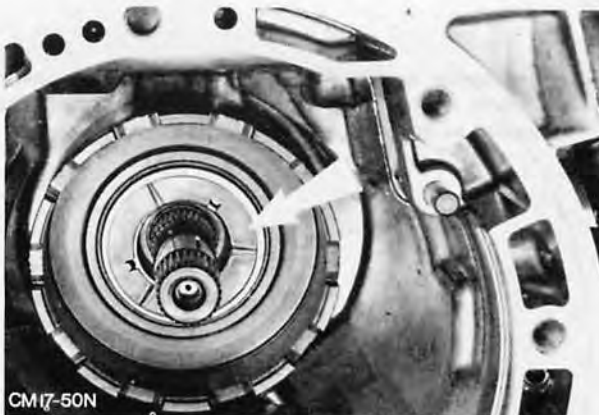

Fig. 112. Thrust washer No. 7 in transmission housing
38. Fit thrust washer No. 7 into housing, Fig. 112. Install annulus and secure with circlip.